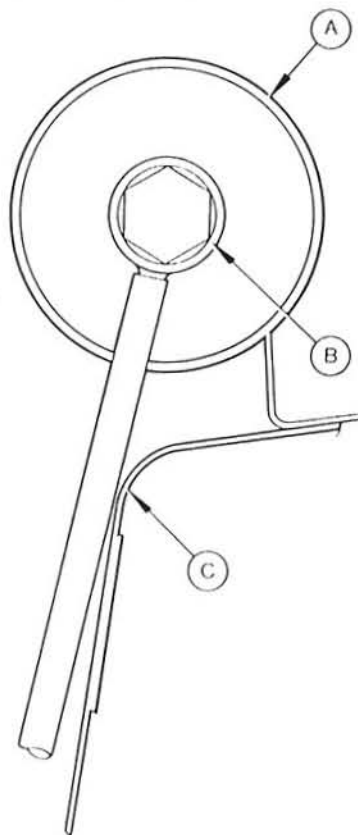

Fig. 3.35 Correct location of fuel filter outlet pipe (Sec 25)
- 22 Refitting is a reversal of removal, but make sure that the filter is positioned the correct way round, and locate the outlet pipe as shown in Fig. 3.35.